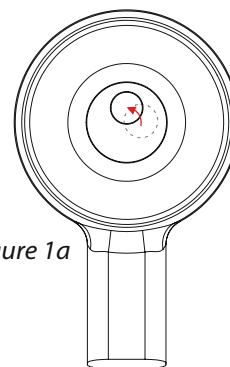

Figure 1a
- For factory caster alignment, position sleeve as shown in Figure 1a.